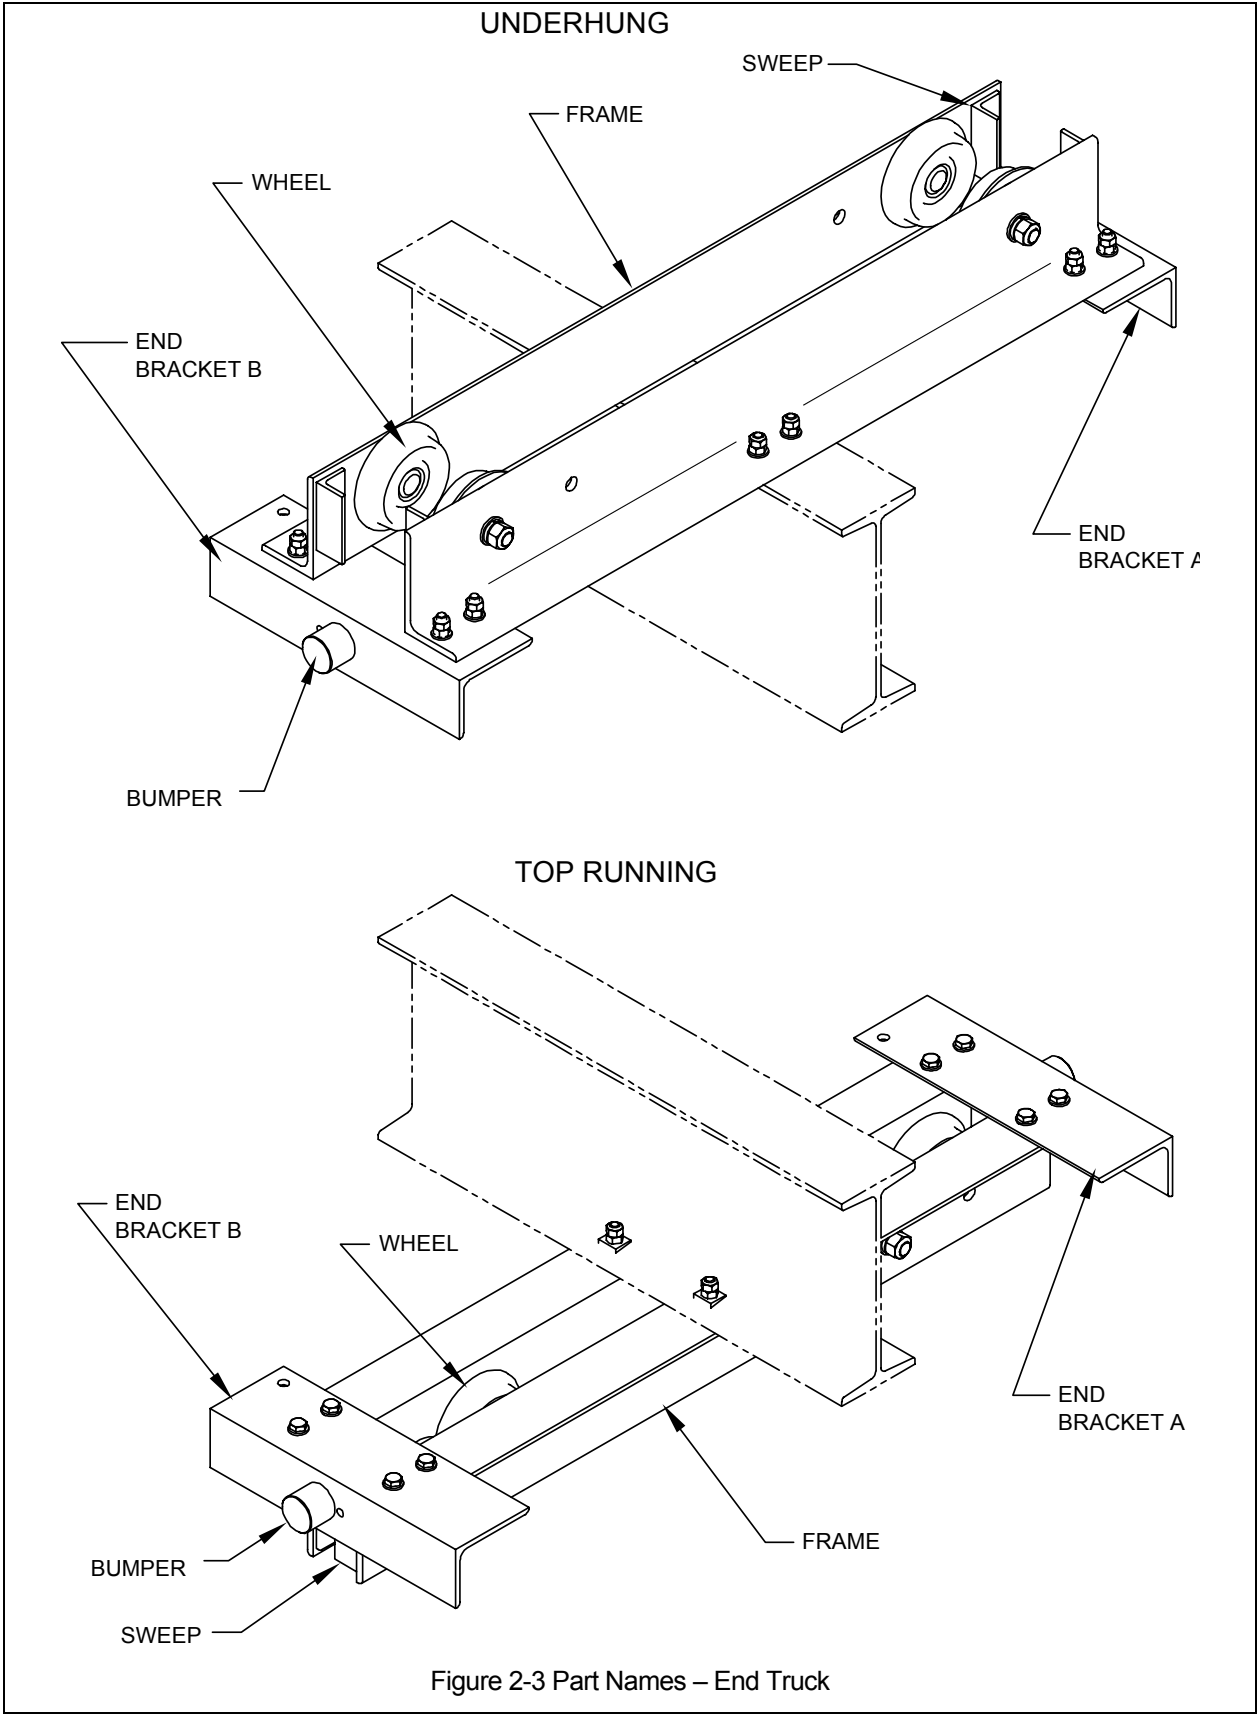
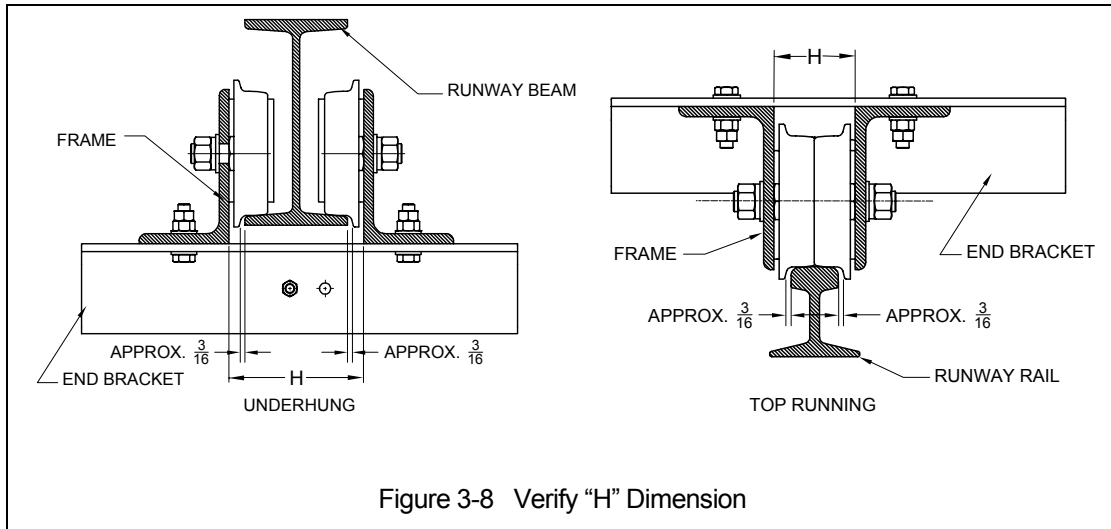
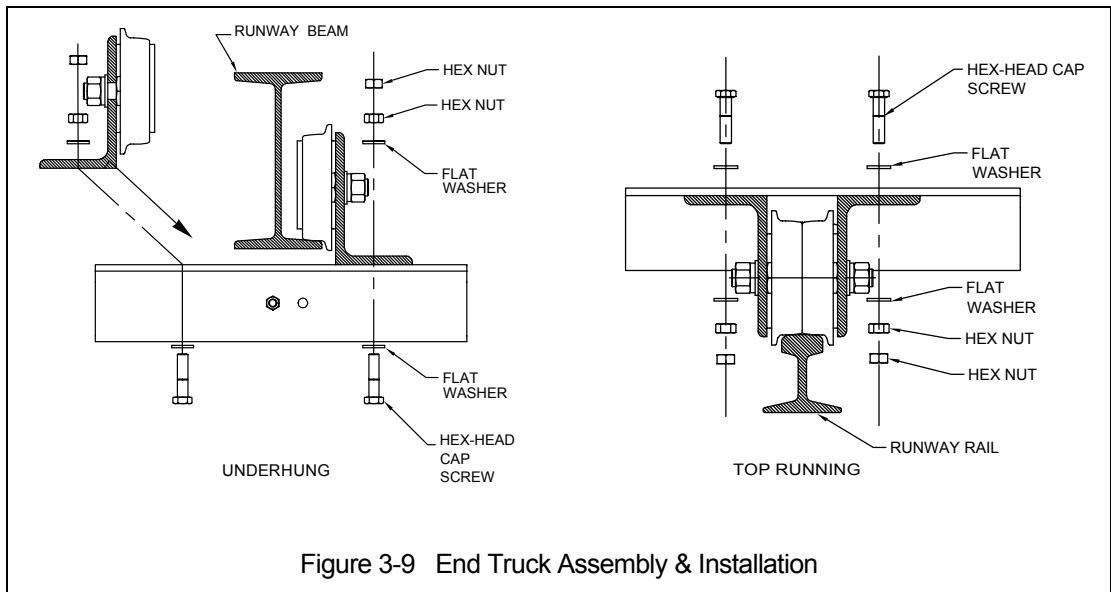

Figure 2-3 Part Names – End Truck
Figure 3-8 Verify "H" Dimension
Figure 3-9 End Truck Assembly & Installation
- Refer to Figure 2-3 and Figure 3-9 and assemble the frames and end brackets together. As you tighten the fasteners (don’t fully tighten yet – this comes later) measure the actual “H” dimension in accordance with Figure 3-8. Verify that the measured “H” dimension and the calculated “H” dimension are the same.
- Place the frame with the end brackets still attached to it onto the runway beam so its wheels ride on the lower flange of the runway beam in accordance with the Underhung part of Figure 3-9.
- In the same manner place the other frame on the opposite side of the runway beam and reassemble this frame to the end brackets, again in accordance with the Underhung part of Figure 3-9.
- Place the end truck onto the runway rail (or square bar) in accordance with the Top Running part of Figure 3-8.
- If the end trucks are used as part of an overhead travelling bridge crane, then move the crane along the entire length of the runway. Ensure that the crane has proper clearance from obstructions. Check for proper alignment and clearances of the crane and the end trucks to the runway (refer to Figure 3-8 and Figure 3-11). Adjust as necessary. Make sure that after any adjustments the fasteners are properly secured and tightened.